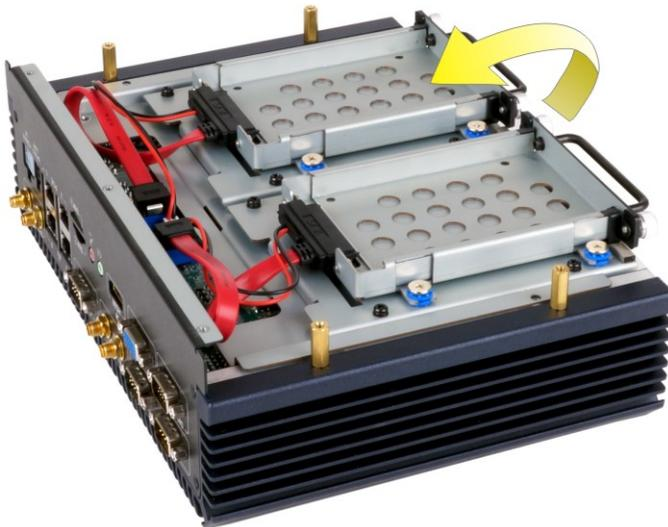

Figure 3-5: Internal Platform Removal
Step 6: Lift the entire internal platform out of the heatsink enclosure carefully (Figure 3-5).